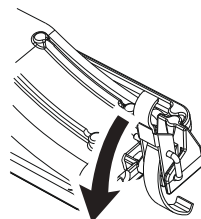

Fig. 57
5. Remove the combustion control unit from the boiler by releasing the over-centre catches that secure it to the heat exchanger (Fig. 57).